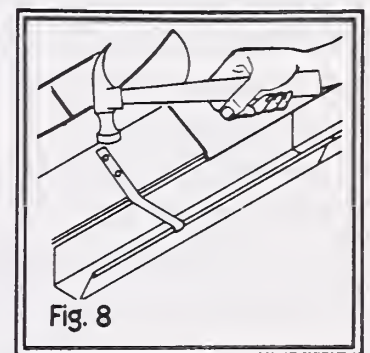

Fig. 8
10. Raise the strap to a higher position on the roof and renail it to the roof with galvanized nails (fig. 8). Make certain that the new nail is located at least  $\frac{3}{4}$  inch from the old nail hole to avoid weakening the new nail hole. Cover the nailheads with a dab of asphalt cement.